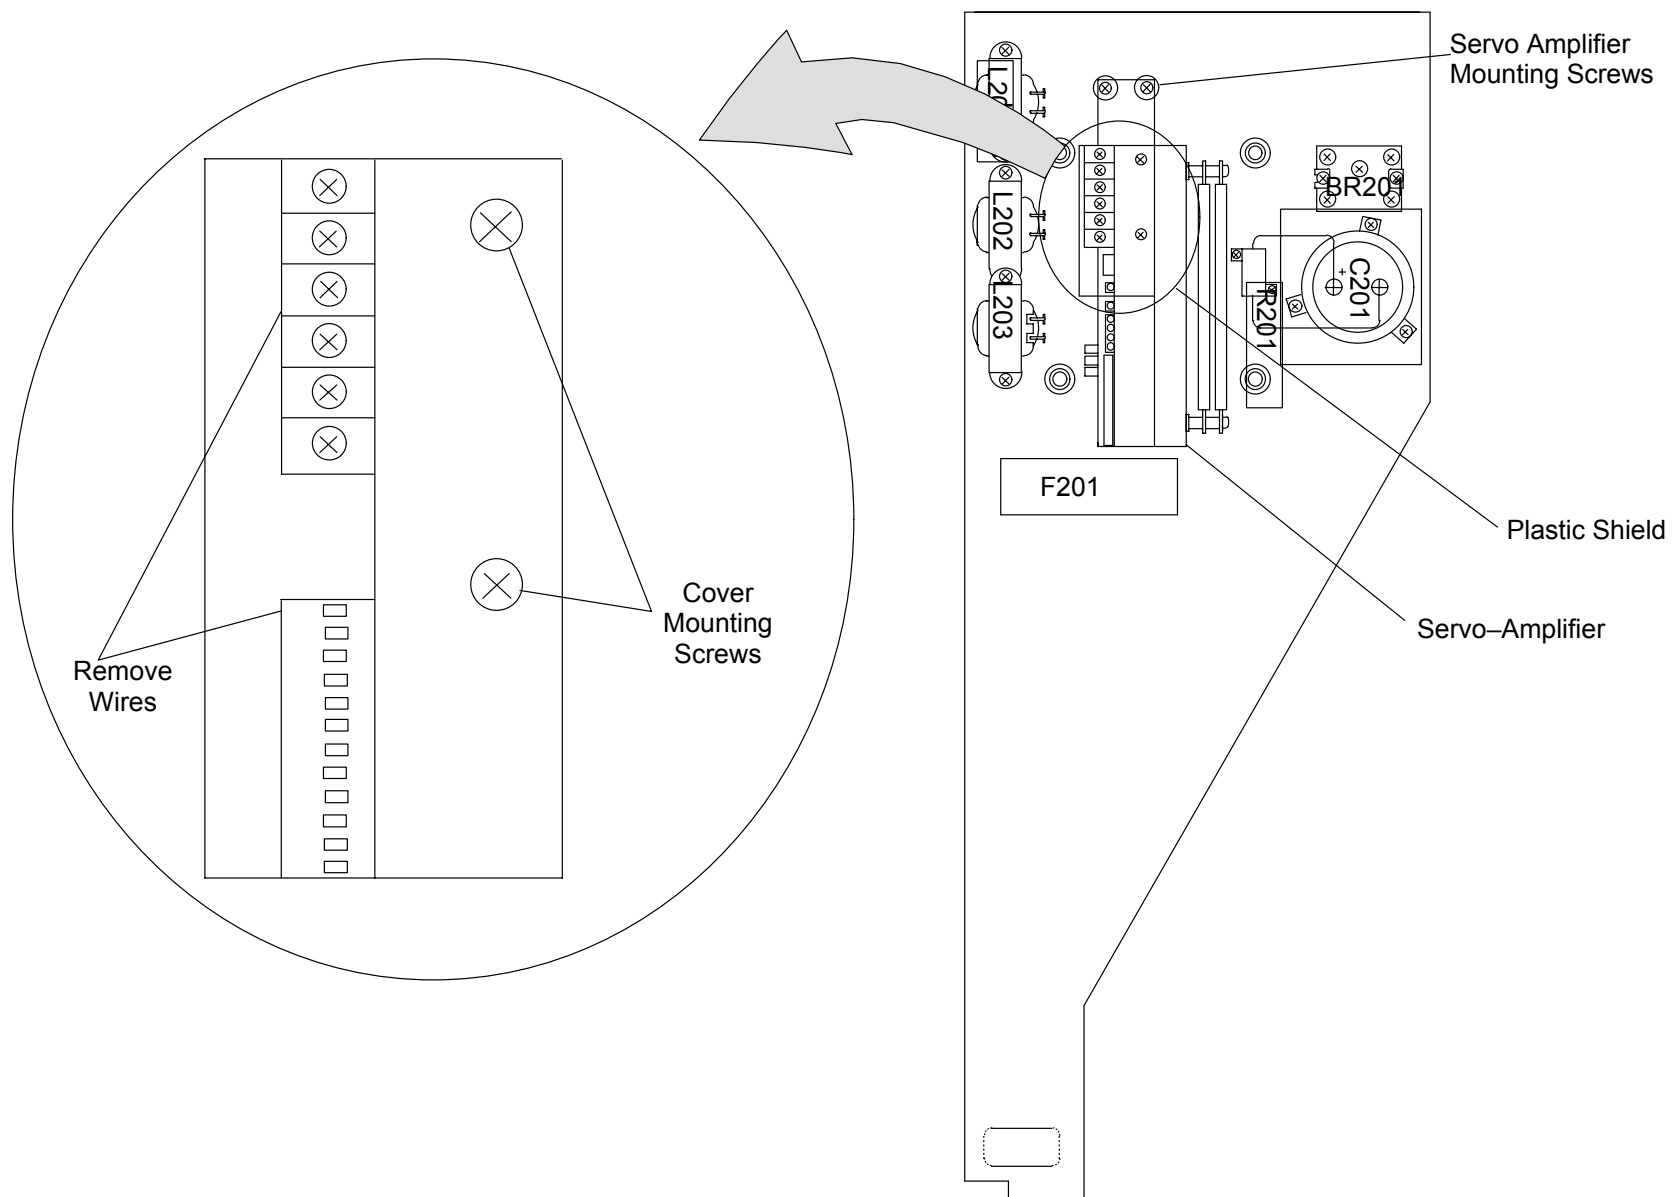

FIGURE 285 Servo Amplifier Assembly
3. Unscrew the two Phillips Mounting Screws and remove the Clear Lexan Shield from the front of the Servo Amplifier. See Figure 285.
5. Loosen the three Servo Amplifier Mounting Screws (2 top and 1 bottom). Refer to Figure 285.